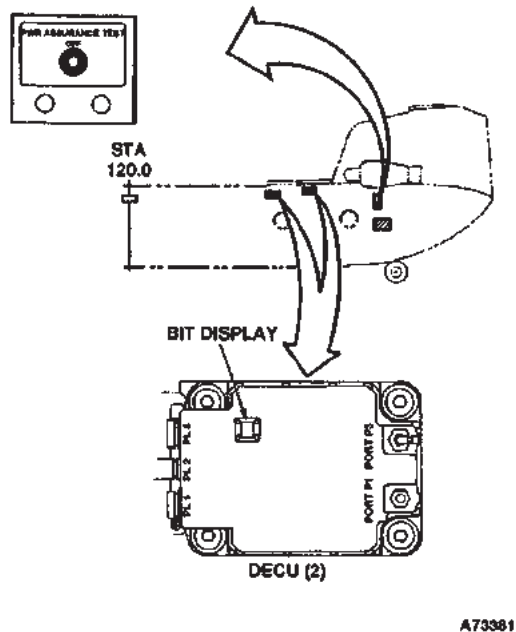

Figure 2-3-7. DECU Panel 714A
q. The Digital Electronic Control Unit (DECU) includes a primary mode and a reversionary section for backup (fig. 2-3-7).